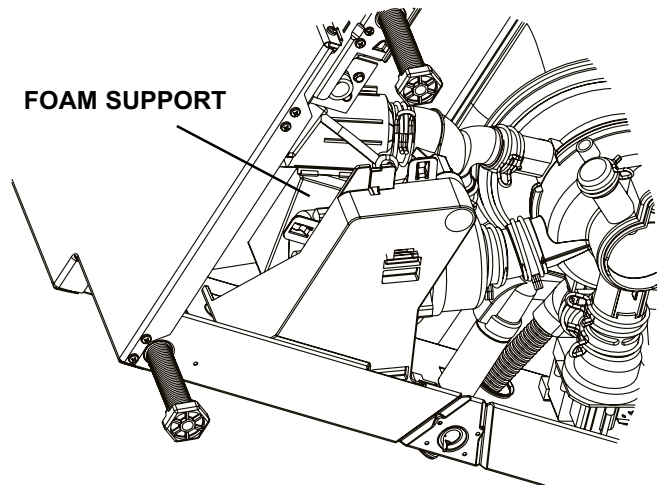

FIG 10
- 1 Locate the wedge of polystyrene (foam) from between the motor and the liner. See Figure 10.